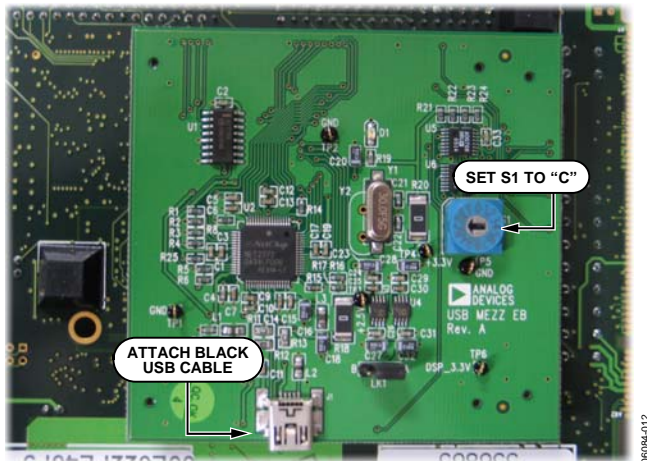

Figure 12. USB Mezzanine Board (Attached Underneath Blackfin EZ-KIT Lite)
3. Using the black mini USB cable included in the AD7764/AD7765 evaluation kit, connect the Blackfin board (via the USB mezzanine board underneath the Blackfin board shown in Figure 12) to one of the PC's USB sockets.
4. Also ensure that the hexadecimal switch (S1) is set to C and that Link L1 is set to A on the USB mezzanine board (see Figure 12).